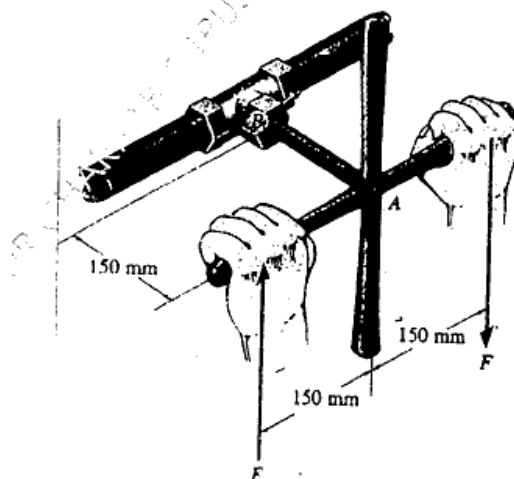

FIG. 4
B) If the solid shaft AB to which the valve handle is attached, is made of red brass, determine the diameter of the shaft, so that the angle of twist does not exceed 0.5° & the shear stress of shaft material does not exceed 40 MPa when $F = 25$ N. Take Modulus of Rigidity $G = 37$ GPa. Refer fig. 4. (08 M)